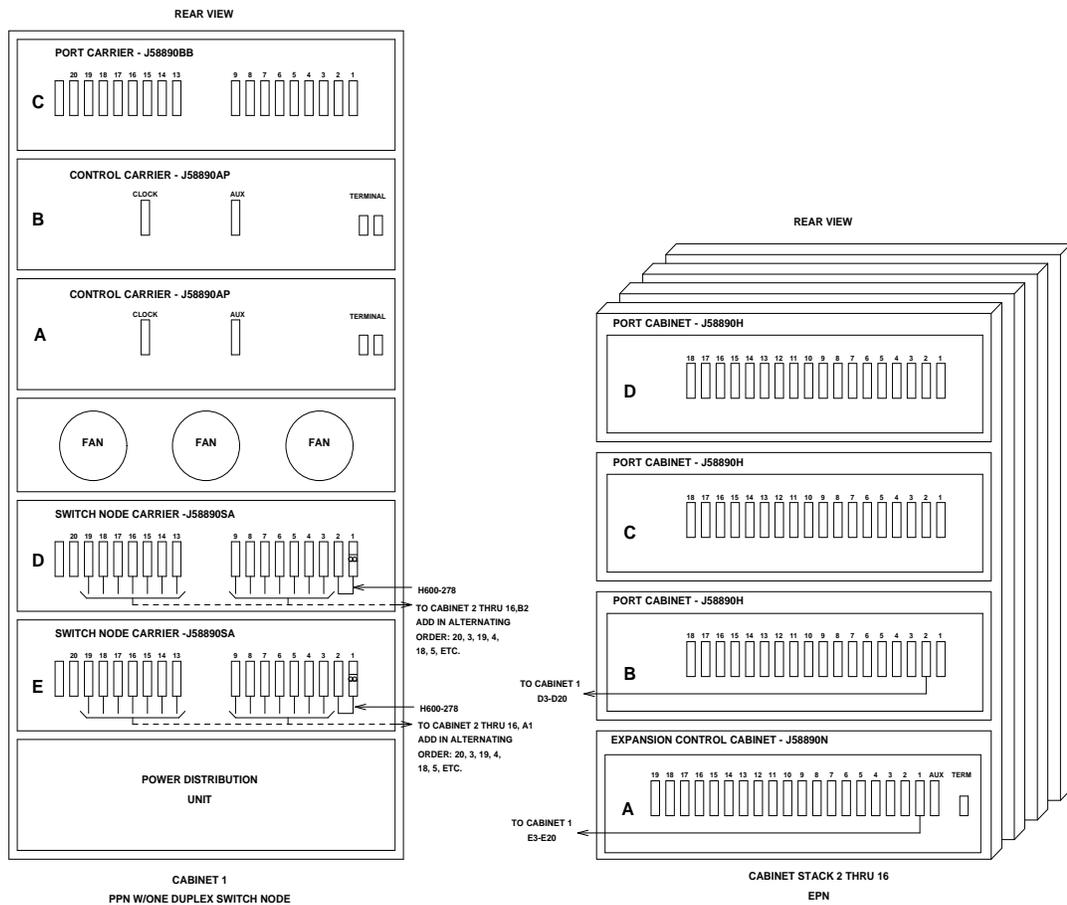

Figure 3-33. Fiber-Optic Connections through Center Stage Switch
1. Behind the PPN cabinet (see Figure 3-33):
2. Behind switch node carrier E of PPN cabinet 1 (see Figure 3-33):
4. Behind switch node carrier D of PPN cabinet 1 (see Figure 3-33):